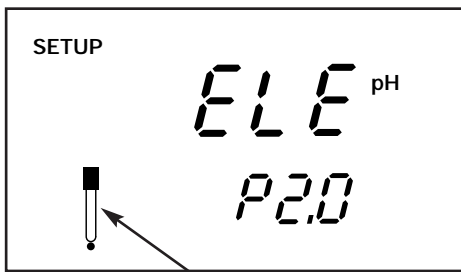

Figure 51
—See Figure 51.
4. To exit **P2.0** program press **ENTER** until **ELE** is in the primary display and **P2.0** is in the secondary display —See Figure 51. press the **▲** or **▼** keys to select a new program OR press **CAL/MEAS** to return to the measurement mode.